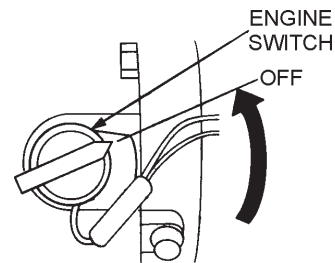

Figure 15. Engine ON/OFF Switch (OFF)
3. Turn the **engine ON/OFF** switch to the **OFF** position (Figure 15).
2. Place the engine **ON/OFF** switch in the **OFF** position (Figure 15).